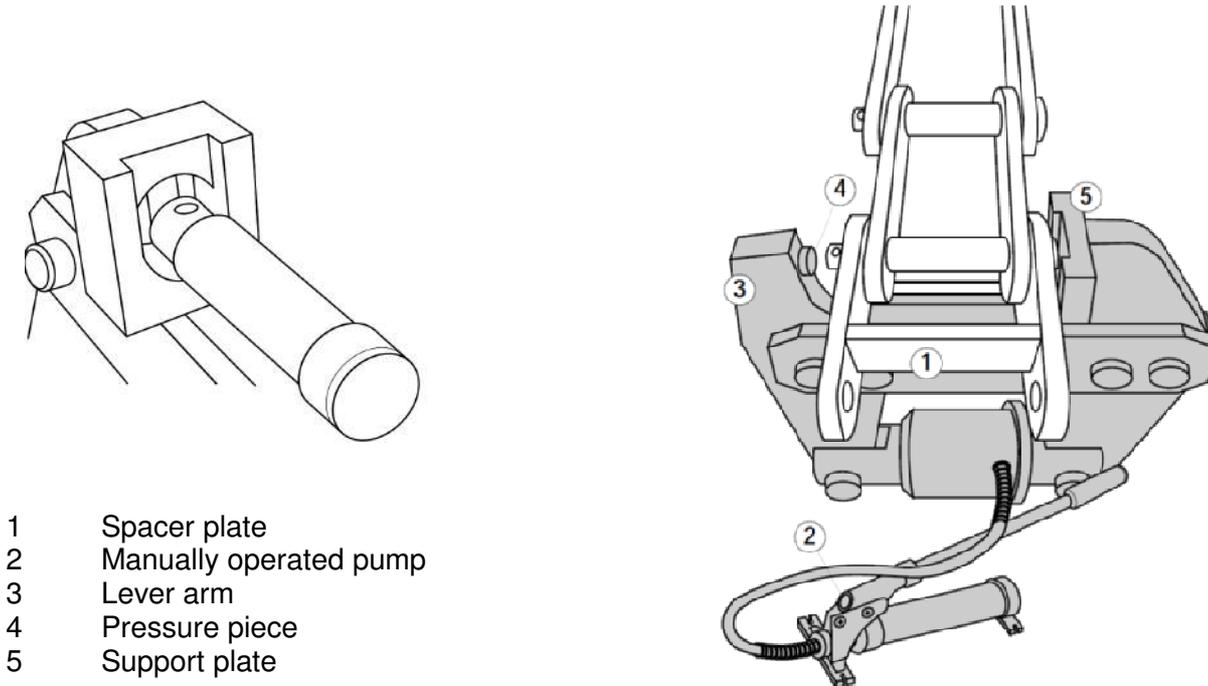

Figure 4 Use of Linkmaster during insertion
1. Stick the pin of the chain link that is to be connected as far as possible into the outer link. When doing this, be mindful of the correct position of the cotter pin hole (Fig. 4). A light film of oil on the pin and in the plate borehole makes the installation easier.